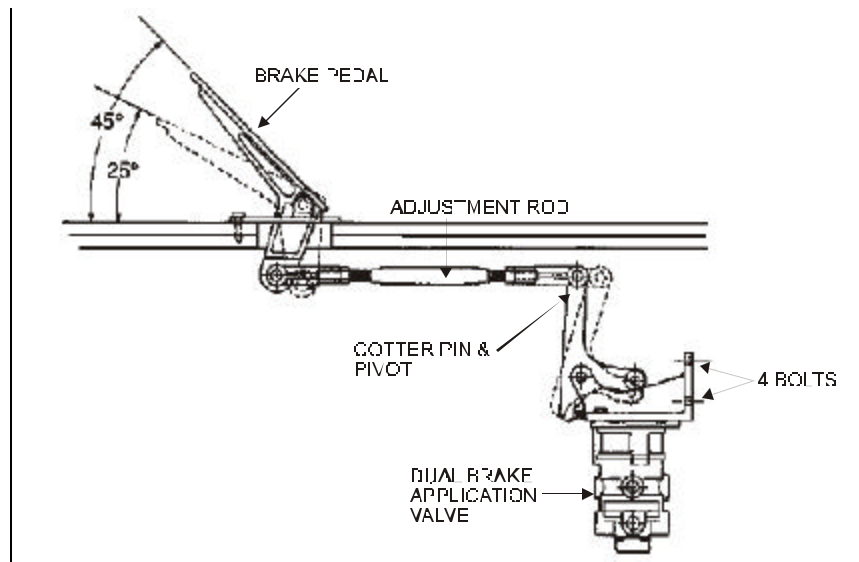

FIGURE 1: BRAKE APPLICATION VALVE
4. Remove the cotter pin and pivot from the adjustment rod and the brake application valve linkage (figure 1).
5. Unscrew the 4 bolts fixing the bracket and remove the brake application valve assembly (figure 1). Put aside and cover it to protect against welding splatter.